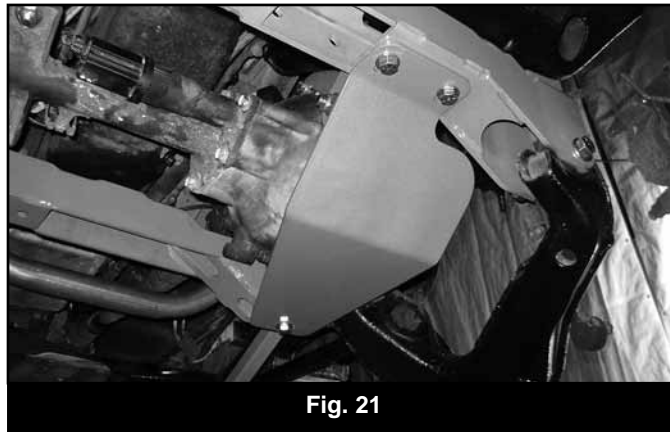

**Fig. 20B**
38. Fasten the passenger's side of the differential to the new bracket with two 9/16" x 1-1/2" bolts, nuts and 9/16" washers (BP 555). Snug hardware (Fig 20B).